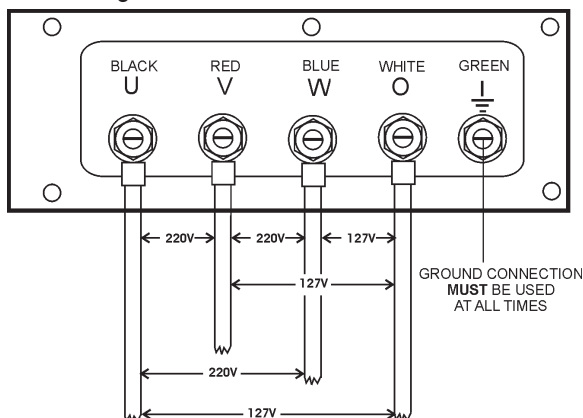

Figure 23. Output Terminal Lugs 3Ø-220/127V Connections
3. Turn the voltage regulator knob (Figure 23) clockwise to increase voltage output, turn counterclockwise to decrease voltage output.